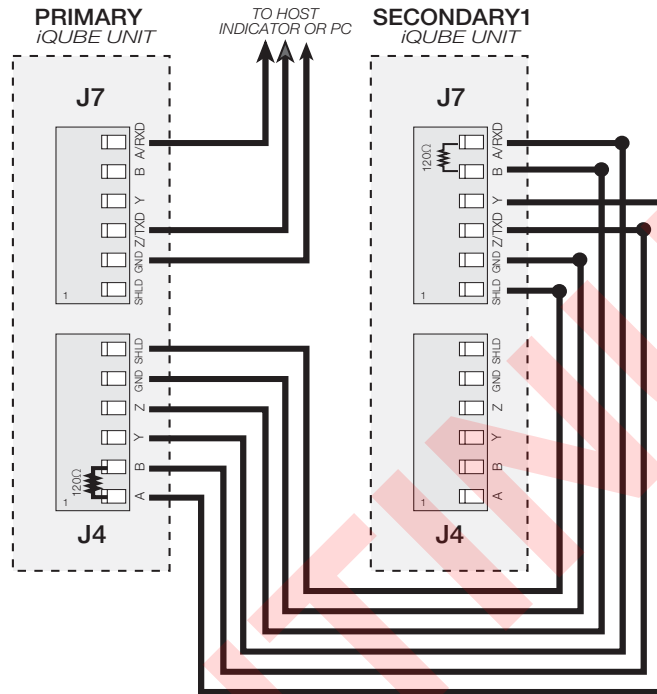
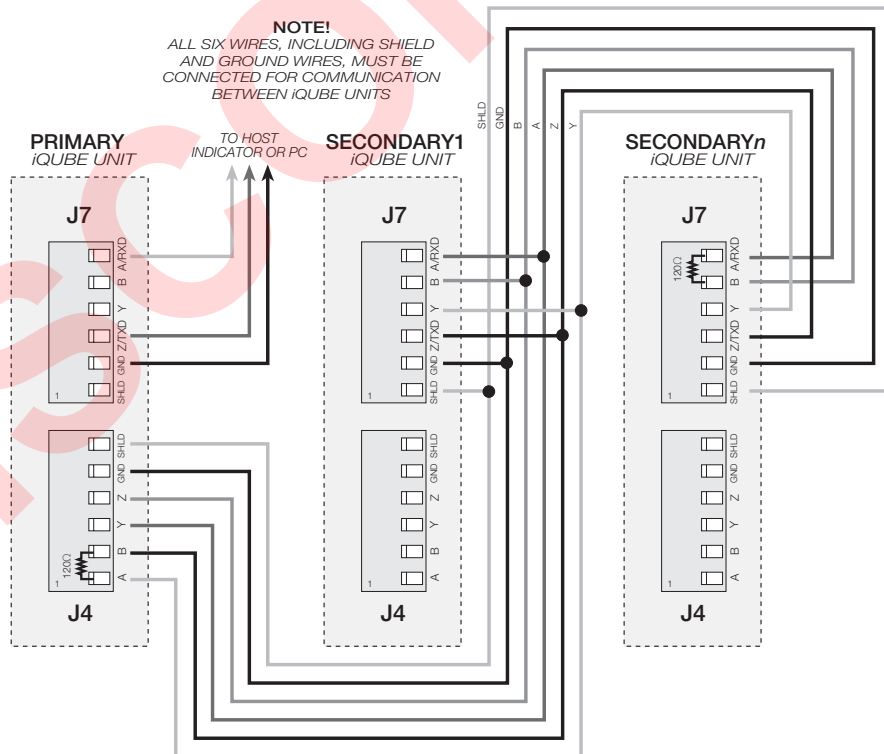

Figure 2-4. Primary-to-Secondary Communications Wiring
Figure 2-5. Primary-to-Multiple Secondary Communications
Up to three *iQUBE* junction boxes can be configured as secondary units controlled by a primary *iQUBE* unit. Figure 2-4 on page 7 shows the primary-to-secondary wiring for multiple *iQUBE* units. Successive secondary units are wired in parallel (A to A, B to B, and so on) as shown in Figure 2-5.
- 120Ω termination resistors (included in parts kit) must be installed across the A and B terminals on the J4 connector of the primary unit and between the A and B terminals on the J7 connector of the *last* secondary unit (see Figure 2-4 on page 7).